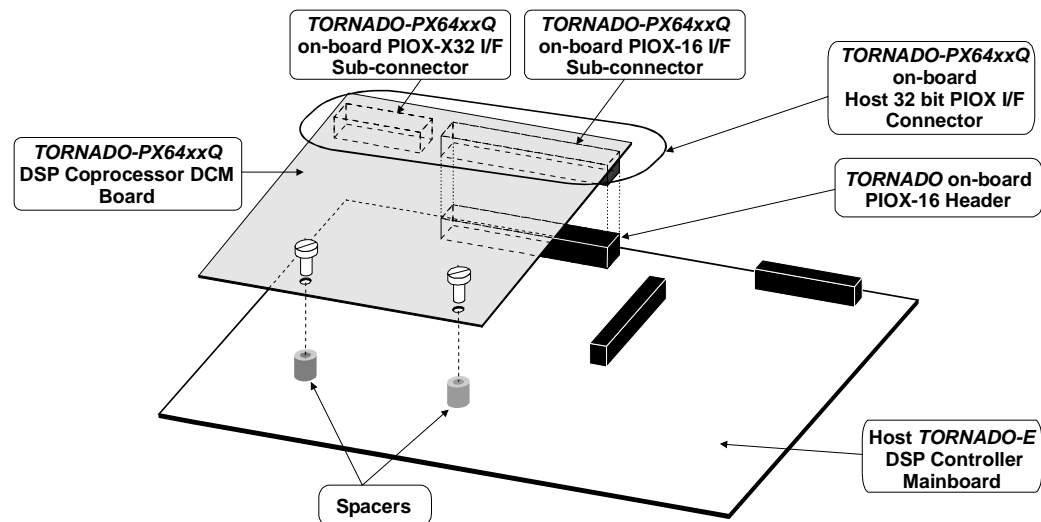
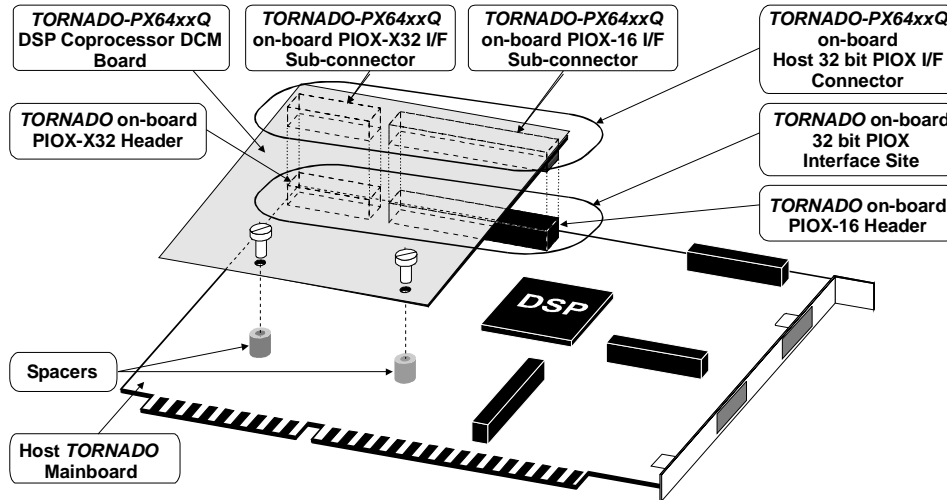

Fig. 3-1a. Installation of *TORNADO-PX64xxQ* DCM into 16-bit PIOX-16 DCM site of host *TORNADO* DSP system/controller.
Fig. 3-1b. Installation of *TORNADO-PX64xxQ* DCM into 32-bit PIOX-32 DCM site of host *TORNADO* DSP system.
4. Pick-up *TORNADO-PX64xxQ* DSP coprocessor DCM and orient it parallel to *TORNADO* mainboard above the PIOX DCM area. Safely plug-in on-board JP1 host PIOX interface connector of *TORNADO-PX64xxQ* DSP coprocessor DCM into the corresponding PIOX DCM site header of host *TORNADO* mainboard. In case host *TORNADO* mainboard provides on-board 16-bit PIOX-16 interface DCM site, then you have to plug 16-bit PIOX-16 sub-connector of *TORNADO-PX64xxQ* on-board PIOX interface connector (JP1) into the PIOX-16 DCM site header at host *TORNADO* mainboard (fig.3-1a). In case host *TORNADO* mainboard provides on-board 32-bit PIOX-32 interface DCM site, then you have to plug both sub-connectors of *TORNADO-PX64xxQ* on-board PIOX interface connector (JP1) into the PIOX-32 DCM site headers at host *TORNADO* mainboard (fig.3-1b).